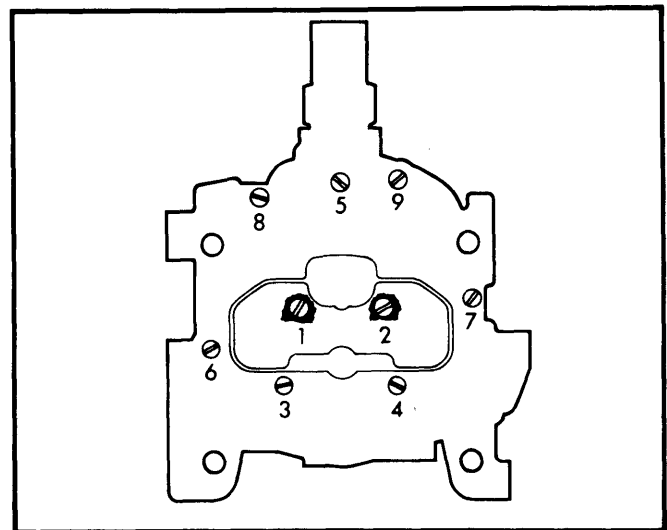

Fig. 13 Air Horn Screw Tightening Sequence
6) Install air horn screws and tighten securely, evenly and in order shown in Fig. 13.